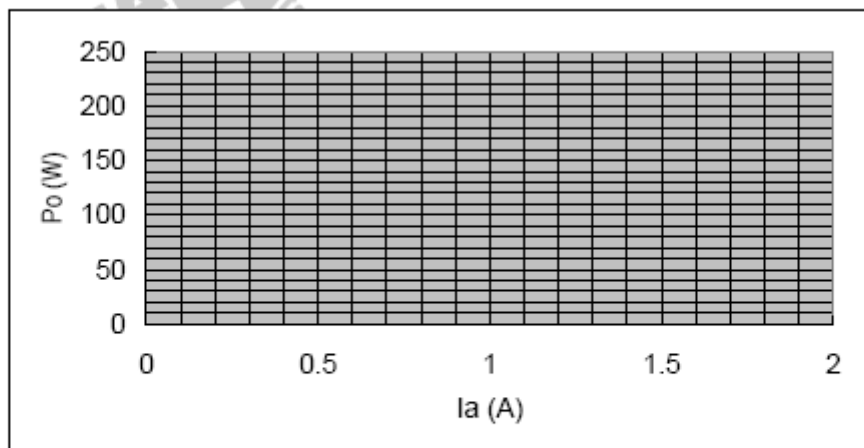

Fig. 9-2-4 The P_o vs I_a curve
11. Using the results of Table 9-2-1, plot the P_o vs I_a curve on the graph of Fig. 9-2-4.